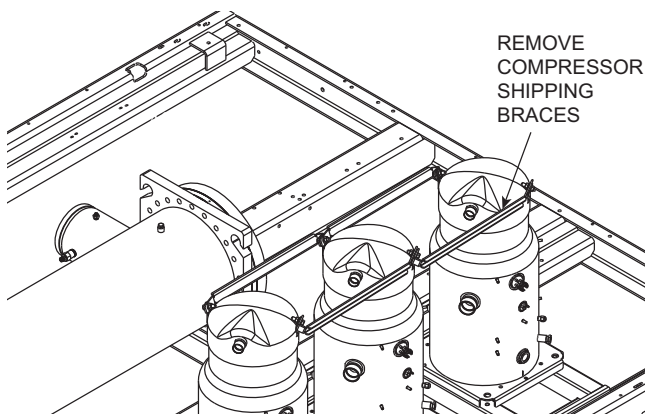

Fig. 27 — Compressor Shipping Braces Removal
Step 3 — Remove Compressor Shipping Braces — Each unit is equipped with compressor shipping braces tying each compressor on the circuit together. Prior to start-up these braces must be removed. Using a 15mm socket, loosen each bolt and nut on each compressor tab and remove all braces before unit start-up. Remove the compressor shipping braces attached between the compressors; see Fig. 27 for guidance.